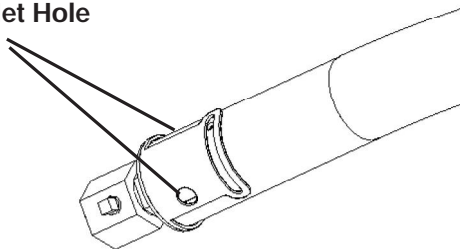

Figure 19 - Burner Air Inlet Hole
2. Inspect burner, pilot, and primary air inlet holes on injector holder for dust and dirt (see Figures 19 and 20).